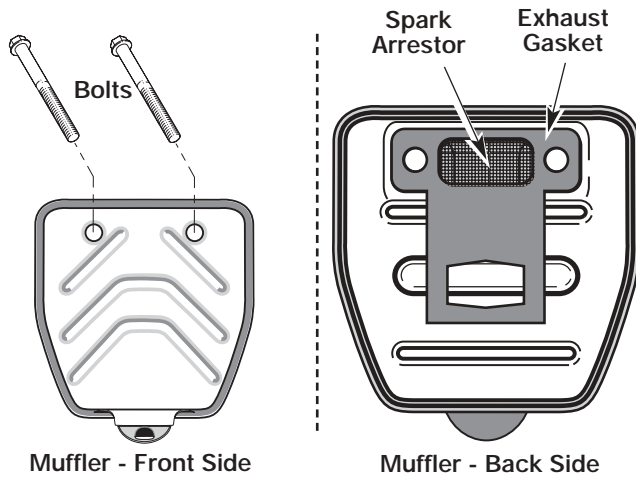

Fig. 25
2. Locate muffler front and the two (2) bolts securing it to the engine. (Fig. 25). Remove the two (2) bolts using a flatblade screwdriver or 5/16-inch socket or nut driver. Pull muffler off of the engine.
3. Turn muffler over to the back side and locate the exhaust gasket. Remove the muffler gasket from the muffler (Fig. 25).
7. Place exhaust gasket against muffler's back side. Align exhaust gasket bolt holes with bolt holes in muffler. While holding exhaust gasket in place, insert bolts into muffler's front side. (Fig. 25).